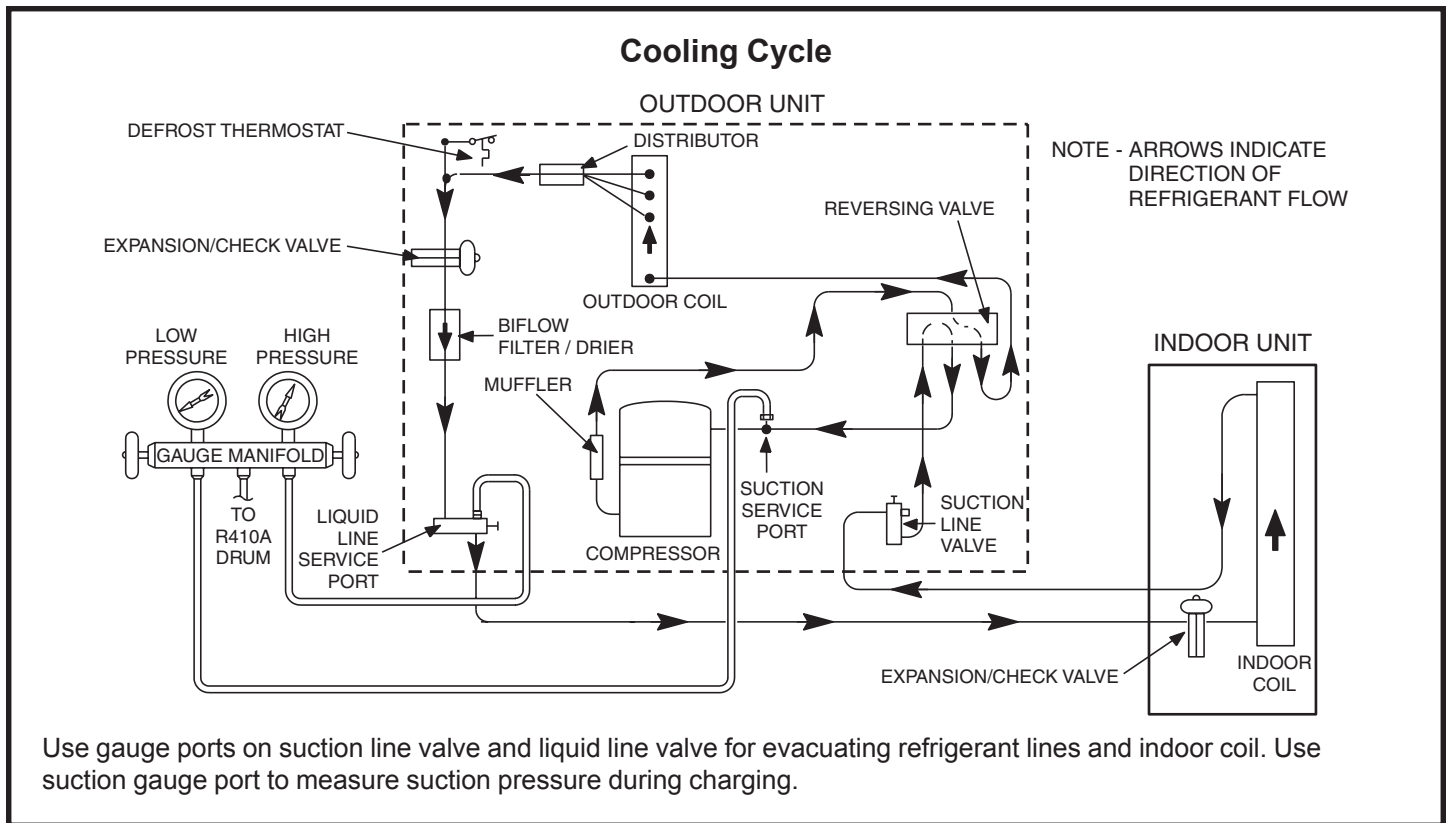

Figure 14
1. Connect the manifold gauge set to the service valve ports as follows (see Figure 14 on page 14):